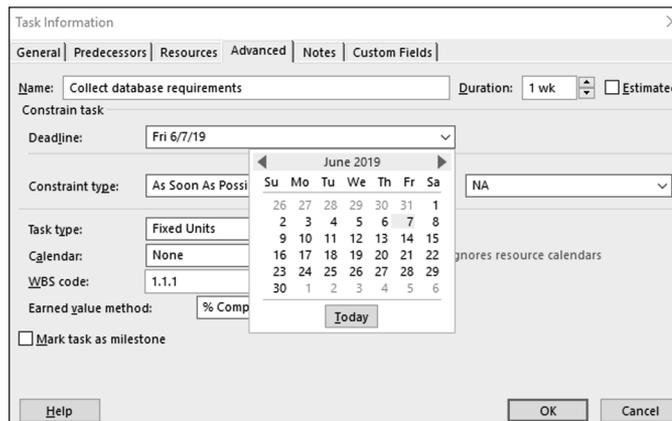

FIGURE 5-4:
3. **Click the drop-down arrow in the Deadline field (shown in Figure 5-4) to display a calendar and then select a date.**